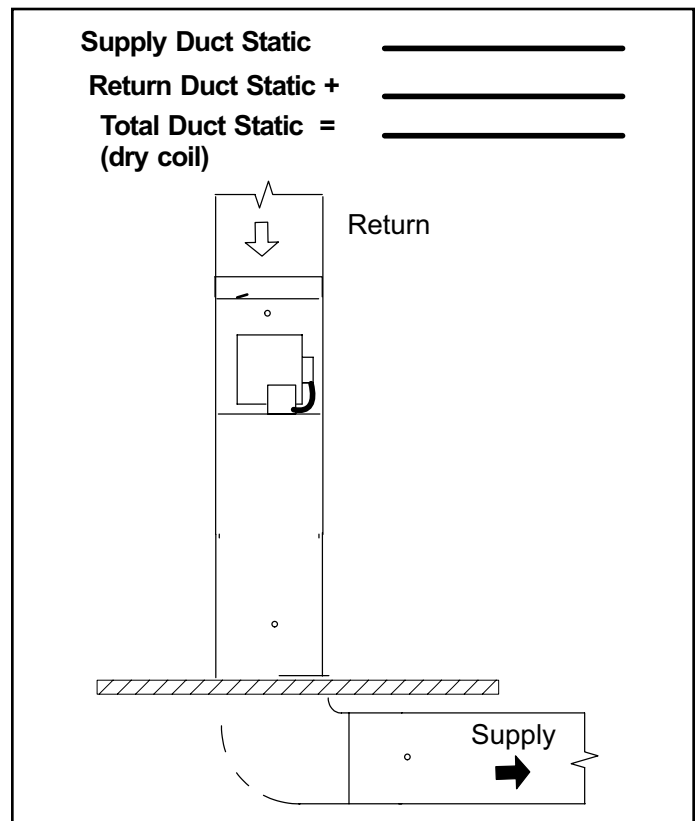

Figure 18. External Static Pressure
1. Tap locations shown in Figure 18.